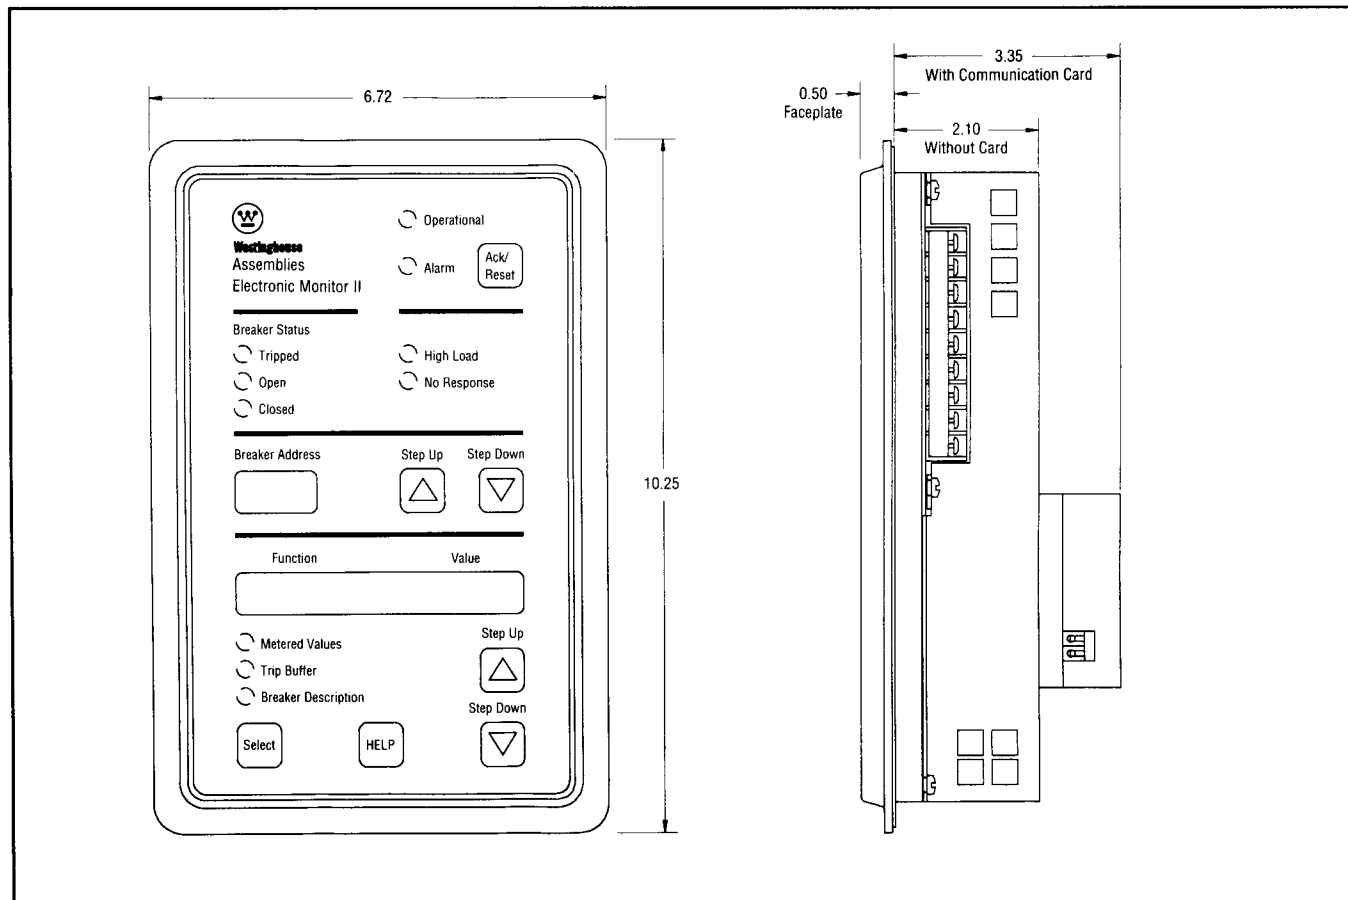

Figure 2.1 — Dimensions
2.1 Hardware Description — The AEM II is designed to be mounted through a cutout in a panel. (This will generally be a cabinet's face or door.) Dimensions of the AEM II are shown in Figure 2.1.